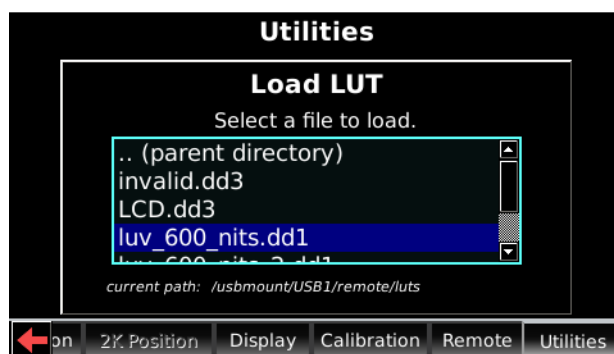

Figure 2-66 Select a File to Load Screen
3. Press **ENTER** to display the files on the USB device, then use the arrow keys to select the desired 1D LUT, as shown in Figure 2-66.